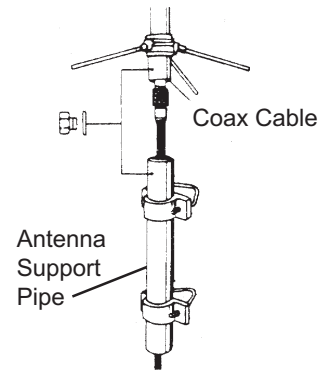
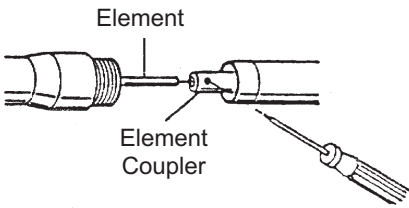
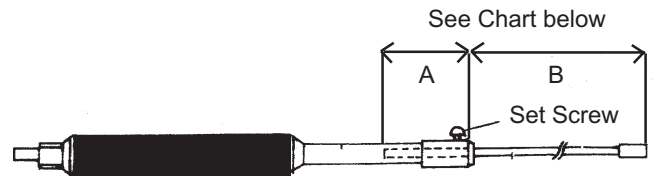

Figure 5
Figure 2
Figure 7
- (1) Remove antenna sections from package and note how sections are tapered to fit together at the Section Joint Assembly.
- (2) Upper & Lower Section Joint Assembly. Lay the Upper and Lower Sections in a line end to end. Connect the antenna elements at the Element Joint as seen in Figure 2. Tighten the two set screws. (It may be necessary to slide the brass antenna element slightly out of the upper section in order to fit into the Element Joint Coupler.)
- (3) Carefully insert upper fiberglass section into lower fiberglass section. The black line should be touching lower section. Slide gasket holder down to meet lower section joint. Verify proper seating of gasket. Thread upper joint nut onto lower joint. Verify proper seating of gasket. Thread upper joint nut onto lower joint. Do not overtighten.
- (4) Fasten radials and secure lock nuts. Figure 7 depicts 6m counterpoise.
- (5) 6m Adjustment. Support antenna about 3m above ground. Measure VSWR. Adjust counterpoise radial length for best VSWR at desired operating frequency (see tuning chart below figure 7).
- (6) Before final installation, check VSWR on 2m & 70cm. (No adjustment is possible on these two bands.)
- (7) Attach mast brackets to Antenna Support Pipe. Pass the coaxial cable through the bottom of the Antenna Support Pipe. Connect coaxial cable to the feed point (Figure 5). Align hole on Antenna Support Pipe with threaded hole at bottom of antenna. Insert screw with lock washer and tighten (Figure 5).